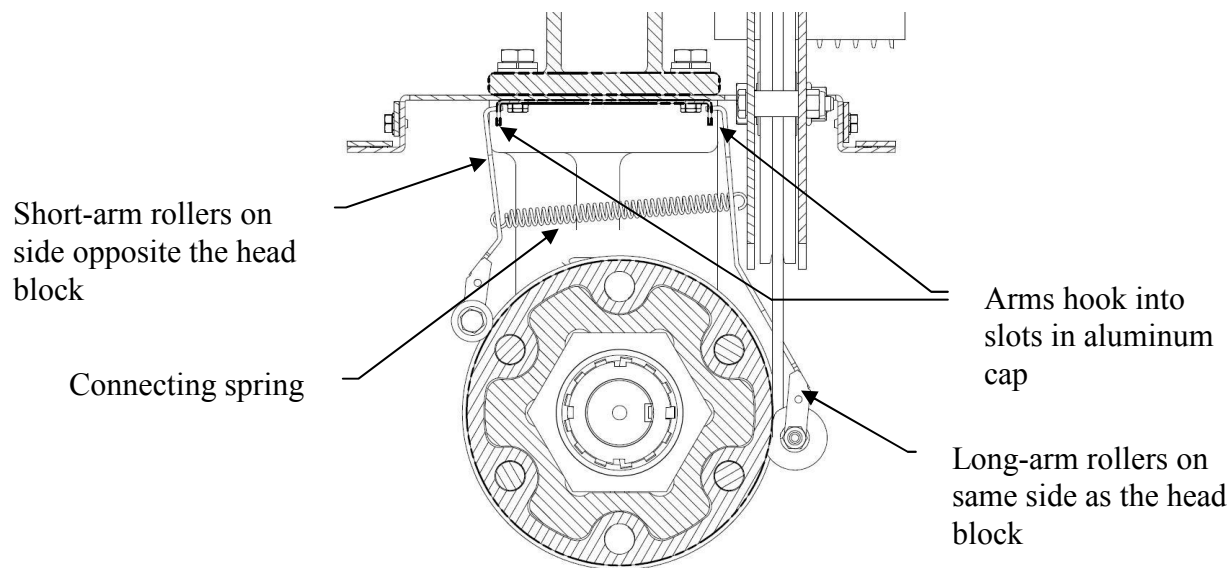

Figure 8: Position of long and short armed cable rollers
1. Attach one end of the spring to a long-arm roller guide and the other end to a short-arm roller guide. The roller portion of the guides should face away from each other with the hooks at the top pointing towards each other. See Figure 8.
2. Start with the roller set closest to the motor and brake. Place the hooks of the long-arm roller guide in the slots in the cap and the roller against the drum. Slide the short-arm roller guide over the drum and gently pull tension in the spring until the short roller guide hooks can be placed into the slots on the opposite side of the cap. See Figure 8.